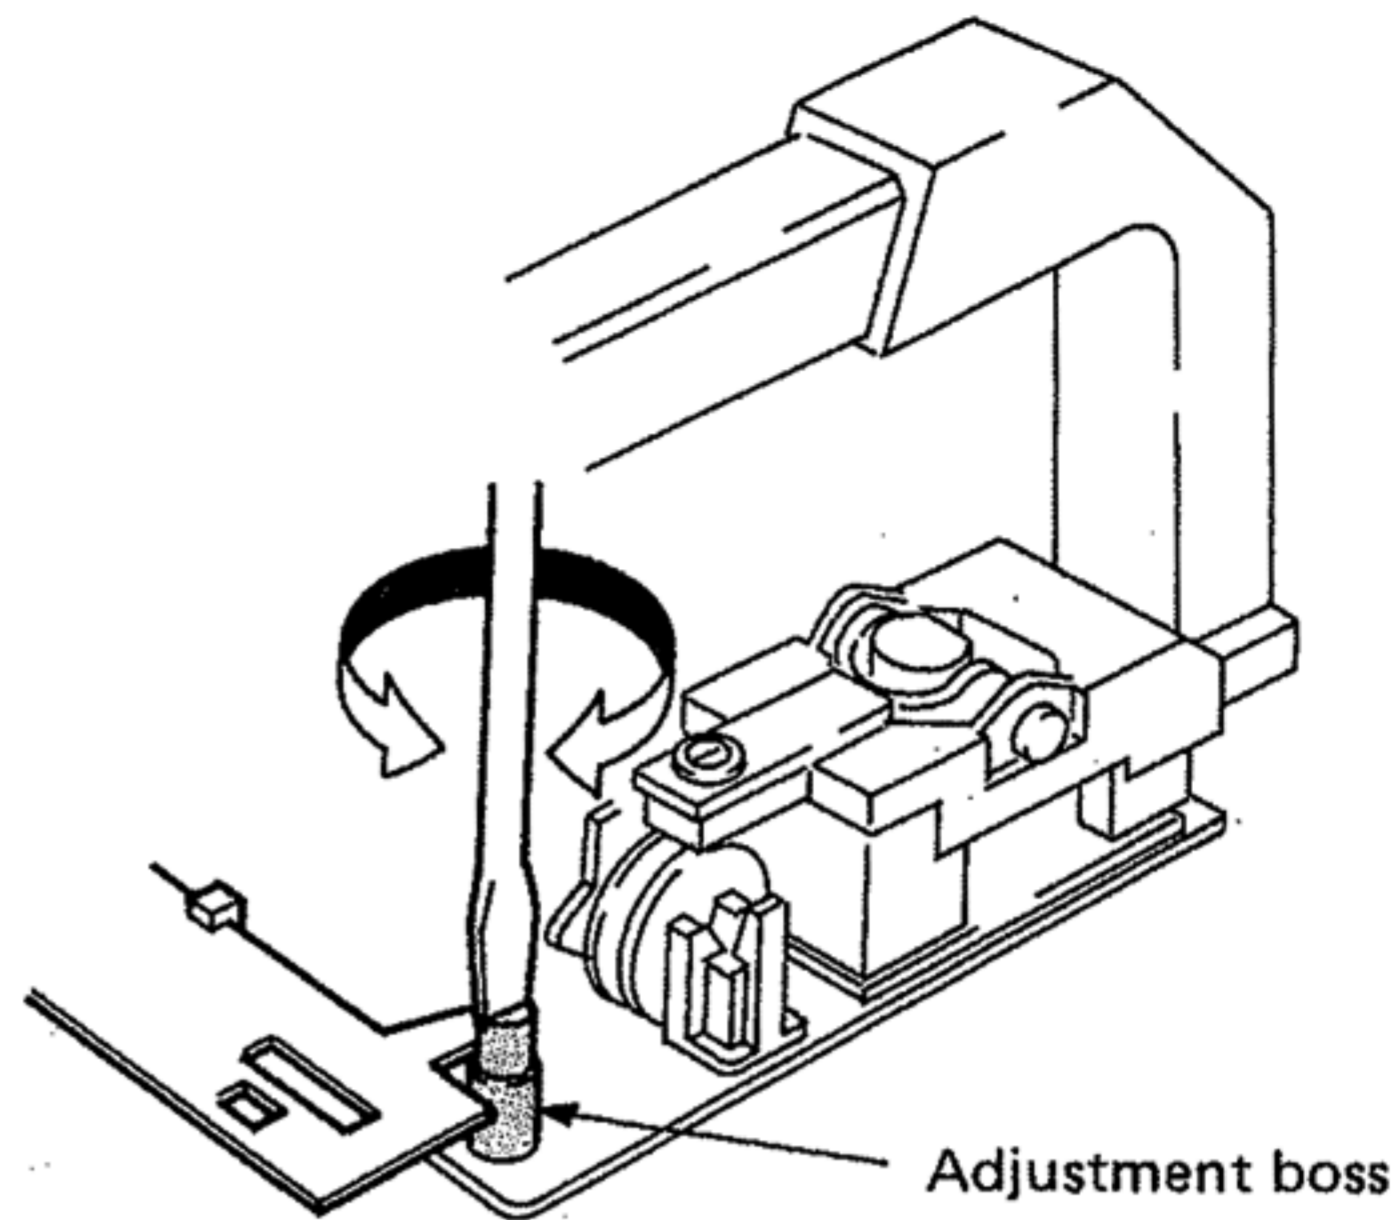

Fig. 4
- 1) Set the AIWA test record (ATR-003) and press the START/CUT button. Adjust the adjustment boss so that the count number of auto-in becomes 25 ± 1 . (See Figure 4)